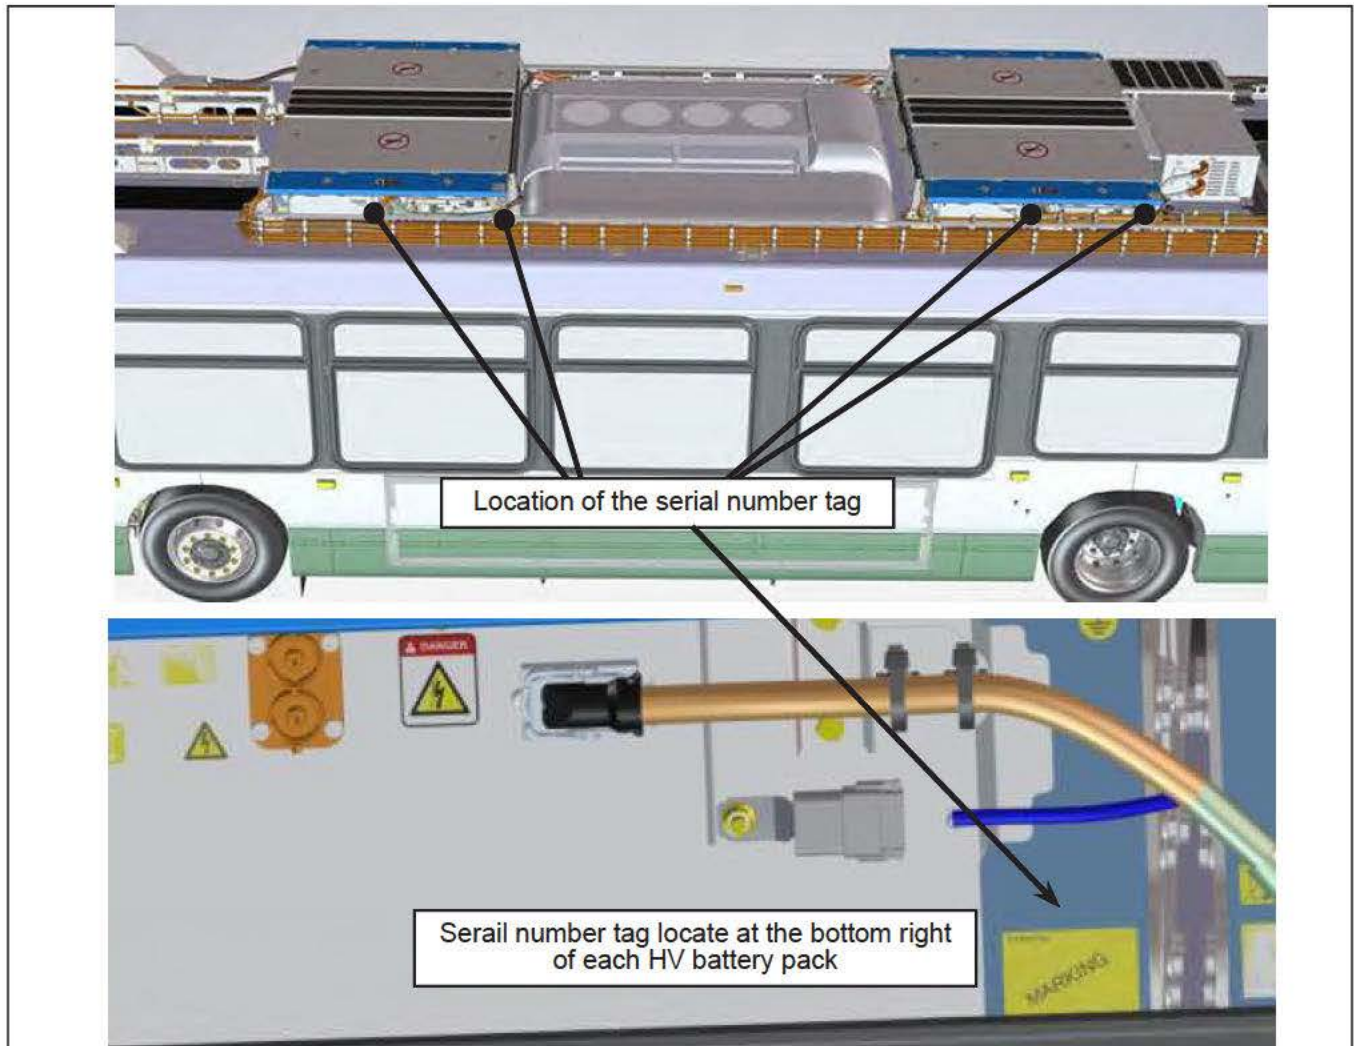

Figure 4 - HV Battery Pack Street Side Serial Number Tag location
- 1.9. Note the serial number of each HV battery pack located on the roof and write these numbers on the **HV BATTERY PACK SERIAL NUMBER TABLE** available in the Annex of this document. The serial number tag of each HV battery pack are located at the bottom right on the street side for each one. See Figure 4.